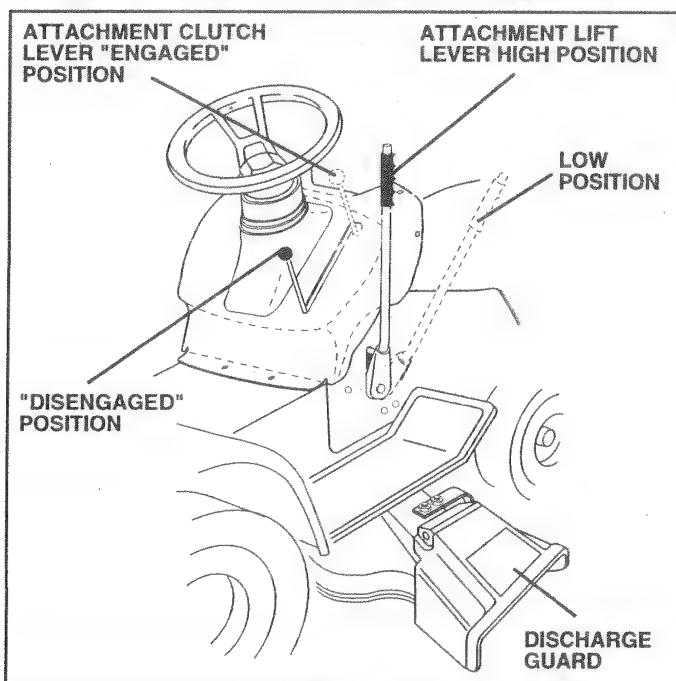

FIG. 7
TO OPERATE MOWER (See Fig. 7)
- Use the runner on the right hand side of mower as a guide. The blade cuts approximately an inch outside the runner (See Fig. 7).